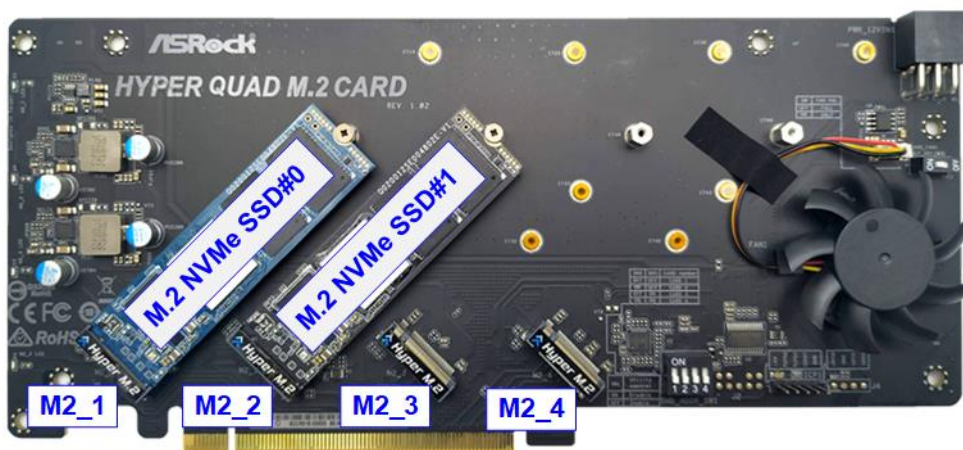

Figure 2-2 Two M.2 NVMe SSDs on Hyper Quad M.2 Card
- i. Insert two M.2 NVMe SSDs to M2\_1 and M2\_2 connectors on Hyper Quad M.2 card, as shown in Figure 2-2.